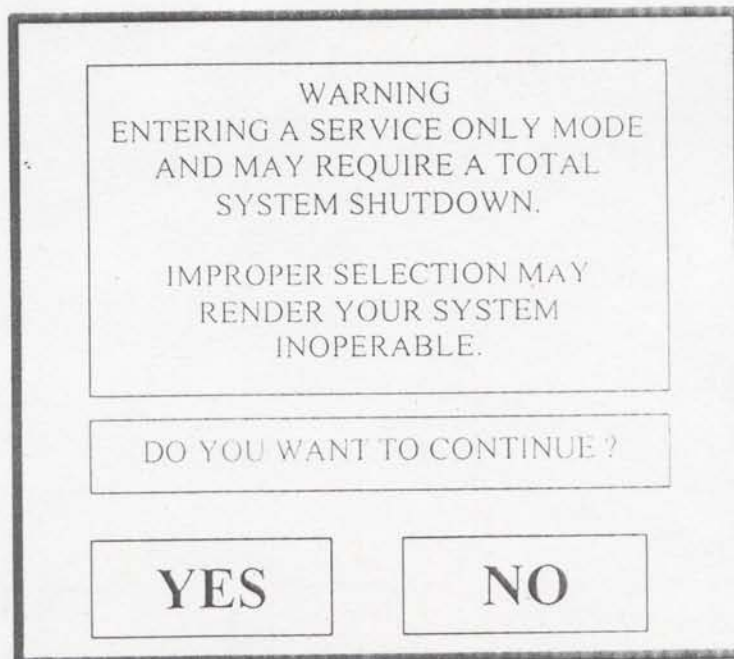

Figure 7: DieselView Initial Configuration Screen
- The display will enter into the initial configuration menu sequence shown in Figure 7